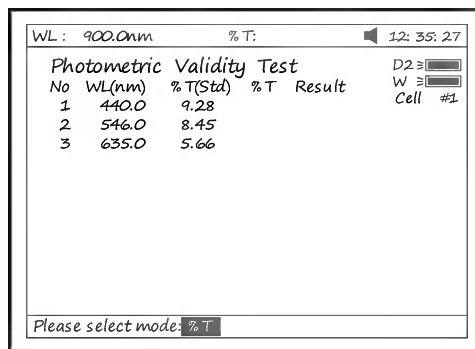

Fig 92
- Press **【F2】** to select test mode (Abs or %T, Fig 92).